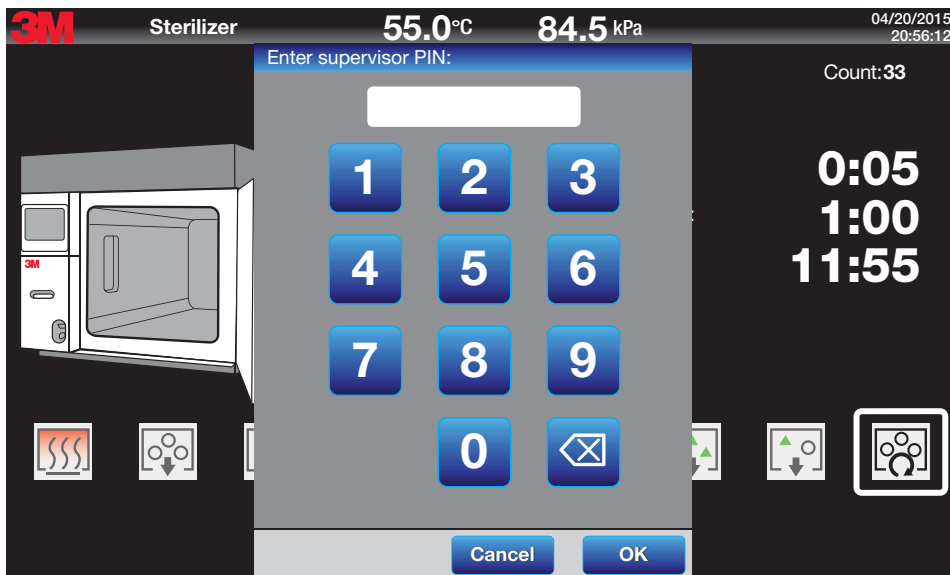

Figure 59.
During the Aeration stage, the 3M™ Steri-Vac™ Sterilizer/Aerator GS Series door can only be opened with a Supervisor or Service PIN (Figures 59 and 60). Aeration timing will be interrupted if the door is opened. Once the door is closed and the aeration temperature returns to specification, aeration timing will continue.
2. Enter a Supervisor or Service PIN (Figure 59).